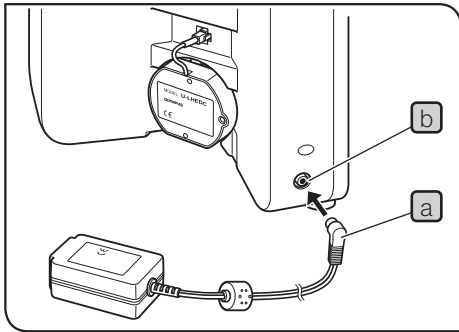

Fig.46
## 8 Attaching the AC adapter (Fig.46)
- Make sure that the main switch is set to “O” (OFF) before connecting the power cord. (Fig.46)